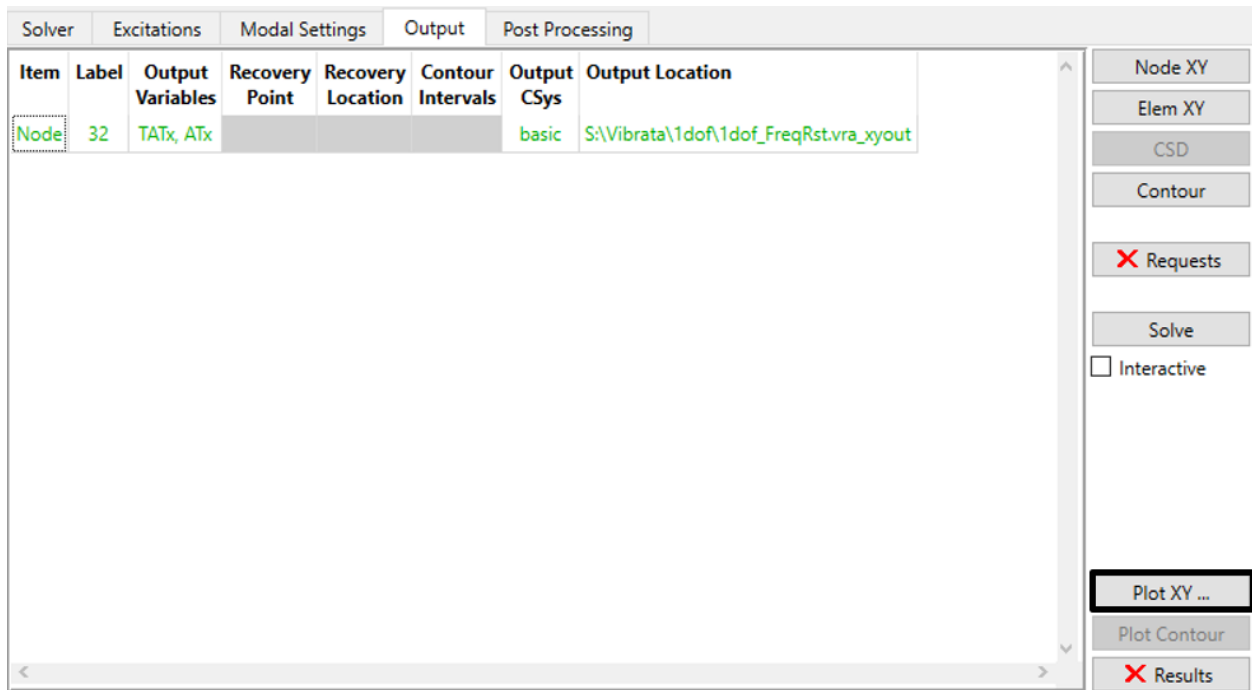

Figure 4-17. Results are available for requests in green text. Display them.
b. The text of the request turns green when the solver has finished and its results are available (Figure 4-17). Plot the results by clicking the **Plot XY...** button.